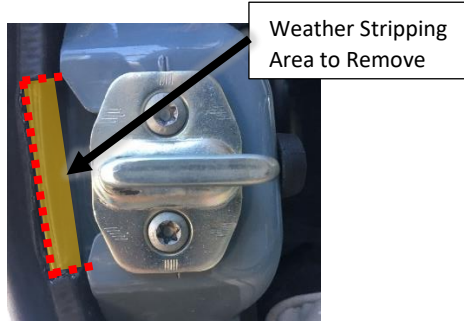

Figure 8: Area to Cut on Weather-Stripping (Bracket Removed for Visualization)
23. Mark and cut the weather-stripping to fit around the inner driver door bracket. On the weather-stripping, cut the channel (attachment to the folded sheet metal) and not the bulb (hollow tube); (Reference Figure 8 & 9). Tin snips work best for cutting through the weather-stripping, but a cut-off wheel can also be used.